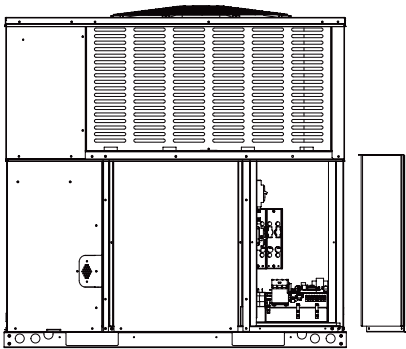

Fig. 8-3
1. Remove the electrical control box panel. Refer to Fig. 8-3.